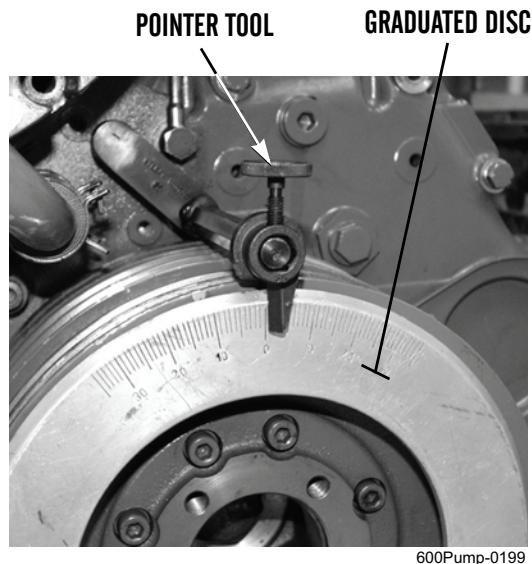

Figure 1. Aligning TDC Mark with Pointer Tool.
3. Attach pointer tool to engine front cover, with pointer tool above and aligned with center of vibration damper (Figure 1).
4. Rotate crankshaft counterclockwise (left) until TDC mark on V-belt pulley aligns with pointer tool (Figure 1).